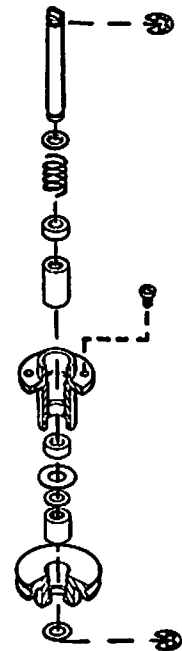

FIGURE 5-12 RIBBON DRIVE
- 2) Check that the ribbon advance cable is properly seated on ribbon drive pulley (Figure 5-12).
- 2) Loop ribbon advance cable around ribbon drive pulley so the cable is to the rear of the pulley (Figure 5-12).
- 2) Compress ribbon advance cable spring on right side frame and slide cable upward out of spring, remove from ribbon drive pulley and slide out of left side frame (Figure 5-12).